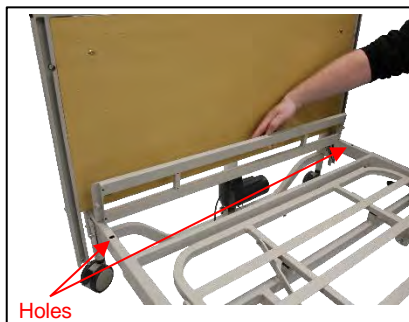

Figure 15: Release locking pins
- Place and secure the extension platform onto the holes that are located on the bed extension (figure 15)